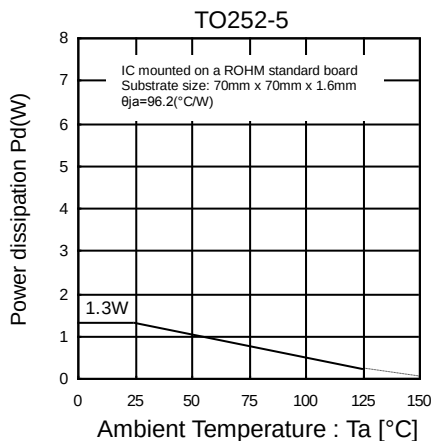
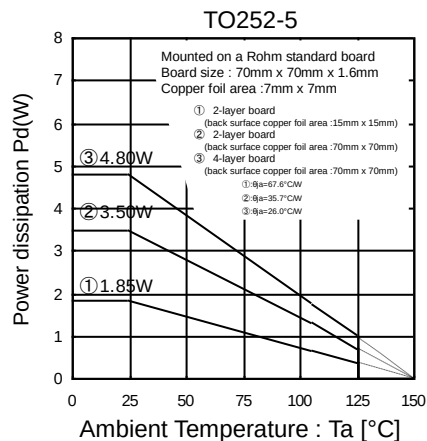
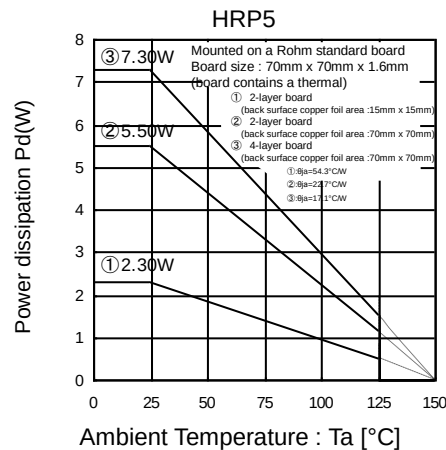

Figure 15
Figure 16
Figure 18
Refer to the heat attenuation characteristics illustrated in Figure 15 to Figure 18 when using the IC in an environment where T_a exceeds 25°C. The operating temperature of the IC greatly influences the characteristics of the IC. If the temperature exceeds the maximum junction temperature T_{jmax} , the elements of the IC may be deteriorated or damaged. It is necessary to give sufficient consideration to the heat of the IC in view of two points, i.e., the protection of the IC from instantaneous damage and the maintenance of the reliability of the IC in long-time operation.
In order to protect the IC from thermal destruction, it is necessary to operate the IC below the maximum junction temperature (T_{jmax}). Figure 15 and Figure 16 illustrate the power dissipation/heat attenuation characteristics for the TO252 package. Operate the IC within the power dissipation P_d . The following method is used to calculate the power consumption P_c (W).
$$I_{OUT} \leq \frac{2.496 - 12 \times I_{CC}}{12 - 5} \quad \left(\begin{array}{l} \text{Figure 16 } \textcircled{3} : \theta_{ja}=26.0^\circ C/W \text{ to } -38.4mW/^\circ C \\ 25^\circ C=4.80W \text{ to } 85^\circ C=2.496W \end{array} \right)$$